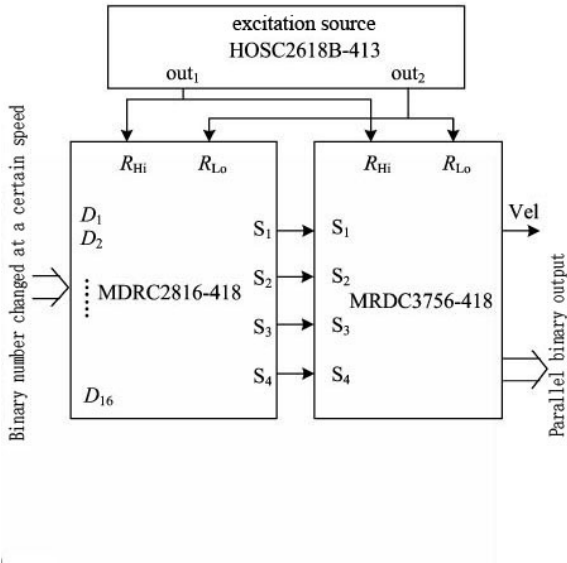
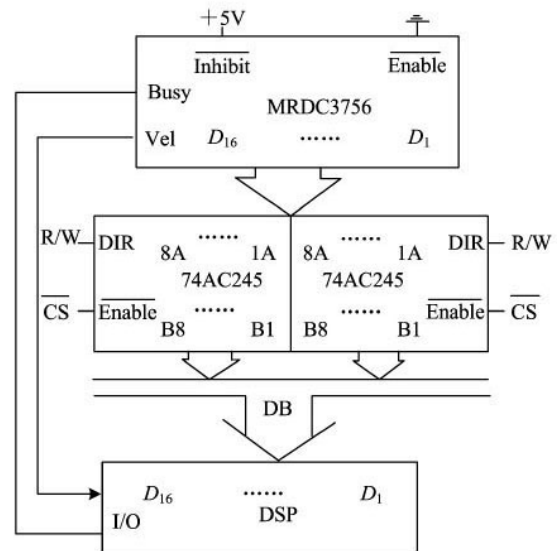

Fig.10 Connection diagram for typical application of MRDC3756 series
Fig.11 Interface for direct data reading of MRDC3756
9. Connection diagram for typical application (Fig. 10 and Fig. 11)